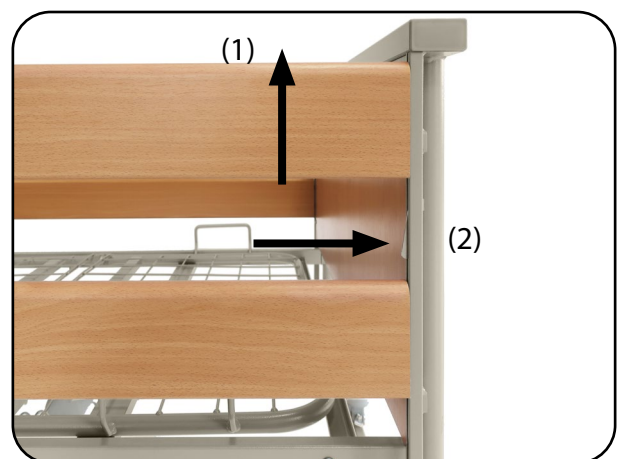

Fig. 8.2.01 – Lowering the side bars
1. To lower the individual side bars, first raise the top side bar slat (1) to release the locking mechanism on the release lever (Fig. 8.2.01).
2. Keep the release lever (2) pressed while the top slat is still raised and, still keeping the button pressed, lower the slat down past the locking mechanism. When doing so, always lower the side bars slowly and carefully (Fig. 8.2.01).